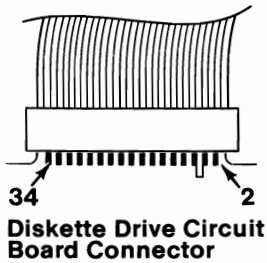

Figure 12. Voltage Check
- Power on the system and monitor the voltage at pin 12 on the circuit board of the failing diskette drive (Figure 12 on page 0600-19). The voltage should decrease from approximately 5 Vdc at the start of the POST to approximately 0 Vdc before the beep at the end of the POST.